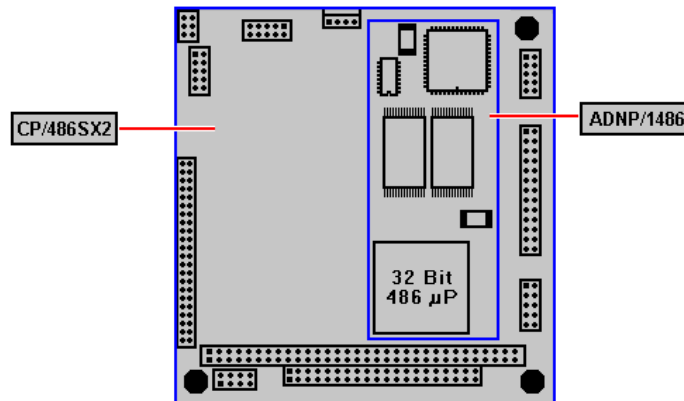

Figure 1: CP/486SX2 base board with ADNP/1486
- Figure 1: CP/486SX2 base board with ADNP/1486